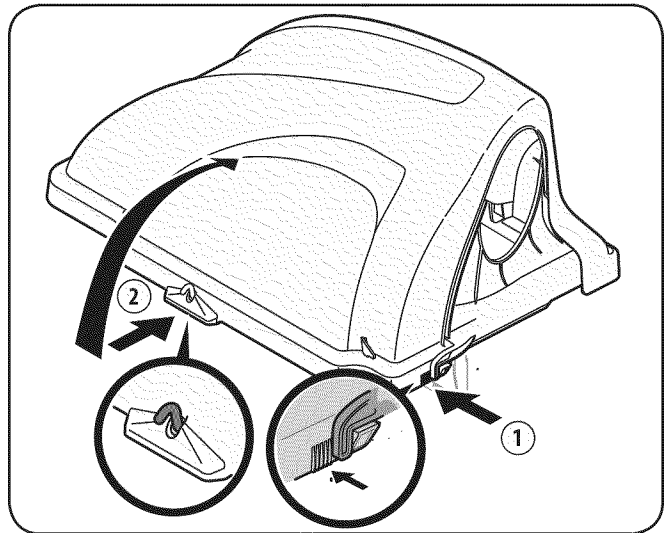

**Figure 4-13**
6. Slide the hinge pin into the hole located on the mounting tab, as in Fig. 4-13. Use the cut-out window (See inset in Fig. 4-13) to line up the hinge pin on the other side and push pin all the way in until it reaches the end-stop. At this point the pin clips into place and is secured by a tab in the bagger cover. See Fig. 4-14.